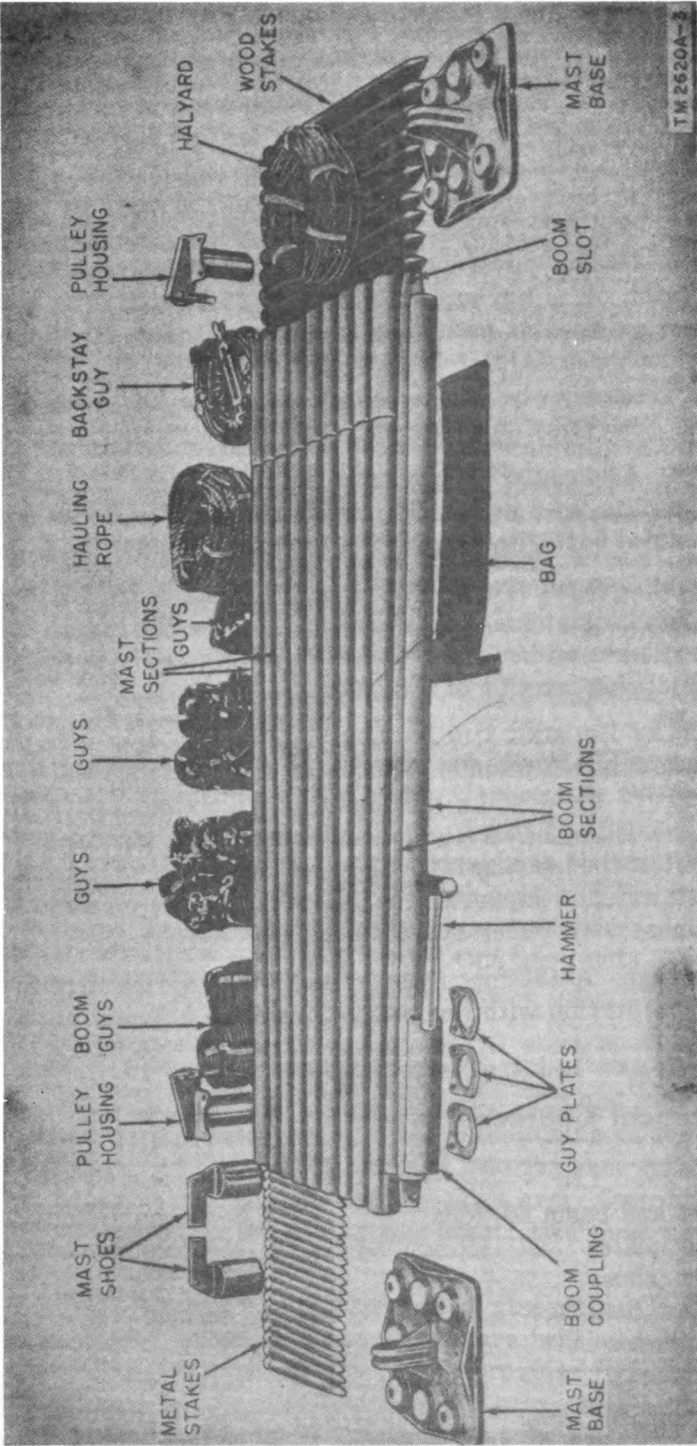

Figure 3. Antenna Support A.B-88B/CB, unpacked.
(fig. 3).
b. Remove the mast bases and lay out the equipment as shown in figure 3. Remove the 2-inch boom sections that are telescoped into the 2½-inch mast sections.